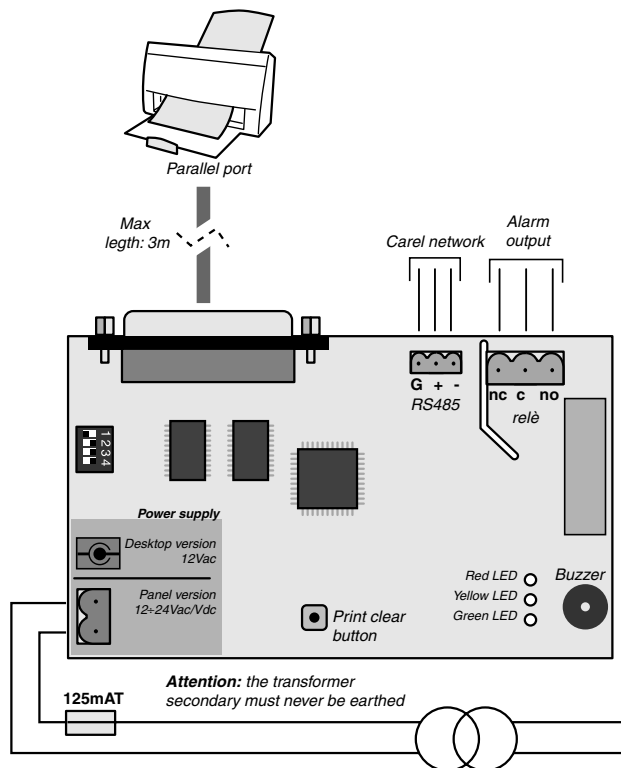

Fig. 2
**Electrical connections** (reference Fig. 2)